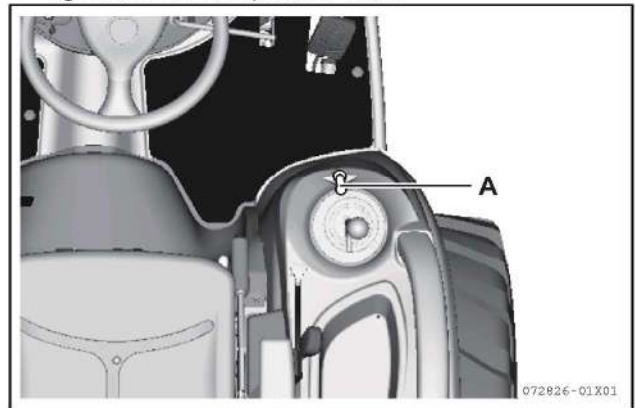

Fig 14-1
2. Pick up the hood open bar (Fig 14-1, A) from the right side of the operator seat.